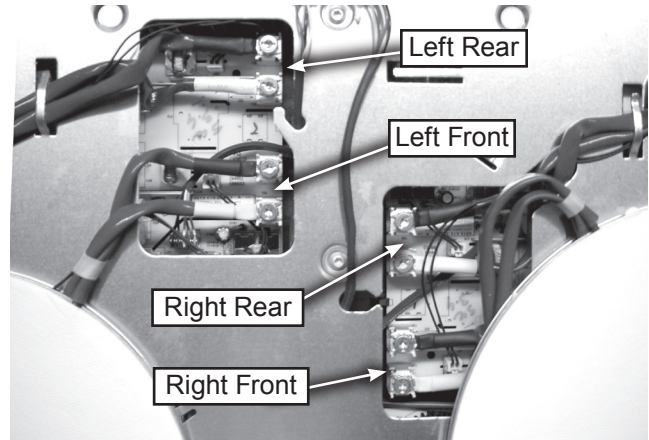

Figure 2
3. The elements are connected to the right and left power boards by means of two centrally located openings in the aluminum cover plate, see figure 2. To remove an element, loosen the connector screw for each of the 2 leads on the element.